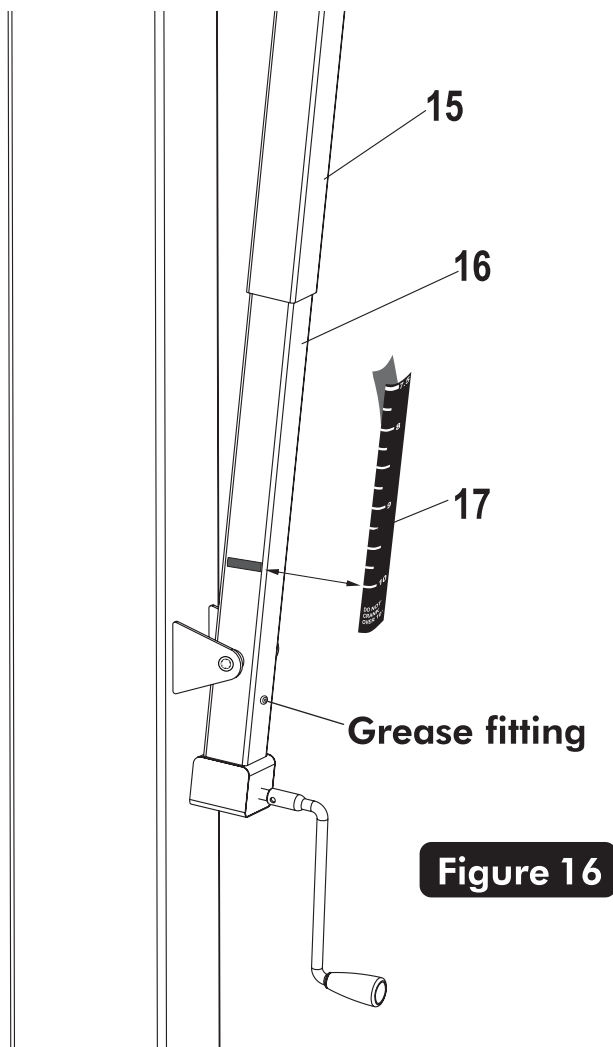

Figure 16
33. Remove the adhesive backing from the Height Decal (#17). Next, carefully align and stick decal to backside of steel actuator (#16) starting at the **10 ft mark first**. Be sure to keep the height decal straight and rub out all air bubbles. See **Figure 16**.